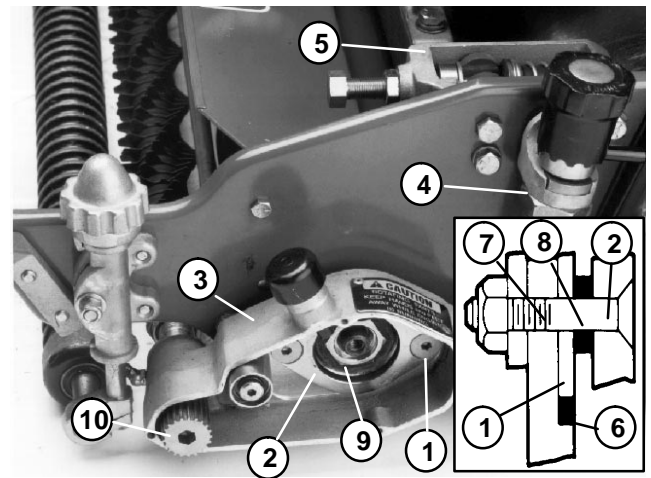

Figure 25
15. Use allen wrench to remove flat head socket screws from the adapter (Fig. 25).
17. Pull belt drive housing with the groomer adjuster from the reel bearing housing (Fig. 25).
2. If bedbar adjuster frames have not been removed, remove the following on both sides of the mower frame (Fig. 25):
3. Install frame assembly (LH) to the left side of the mower frame (Fig. 25 and 26).
6. Reinstall bedbar adjuster frame to mower frame with cap screws and washers previously removed (Fig. 25).